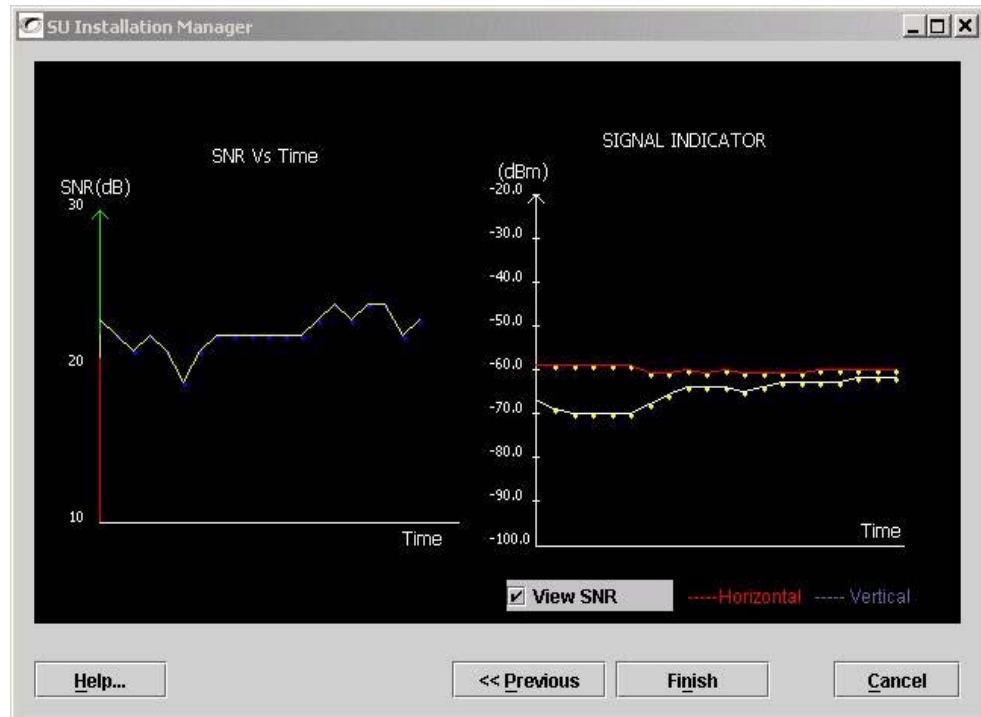

Figure 2-14 Alignment with Diversity Enabled
- When AIM enters the Alignment phase, you will see two signal strengths, horizontal and vertical. You should maximize their value and insure that both the horizontal and vertical signal strengths are equal. To perform the alignment of the horizontal and vertical signal strengths, you should plumb the antenna as appropriate to make these signals equal. An example of AIM's Alignment response is shown in *Figure 2-14* on *page -20*.